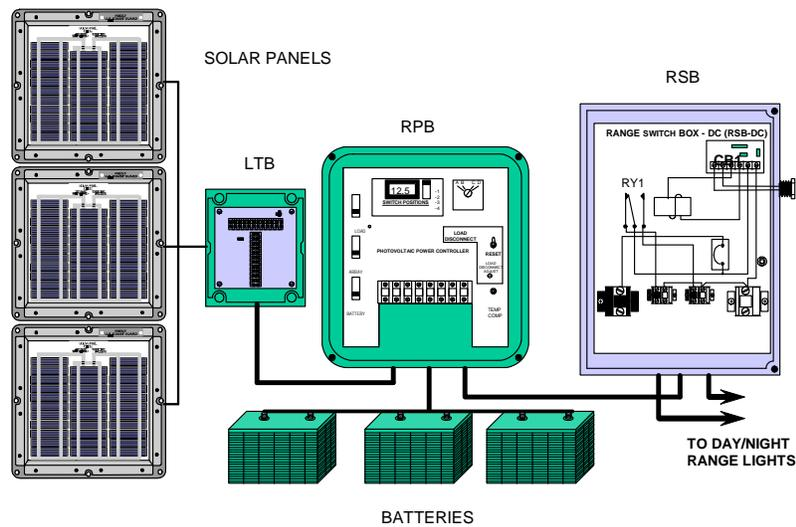

Figure 1-2
2. Day/Night Ranges. Day/night ranges generally use more power than a typical minor aid. Multiple solar panels are terminated into a Local Terminal Box (LTB). Overcharge protection, disconnects and low voltage cutoff are provided by the Range Power Box (RPB). Batteries are multiple 2-volt cells wired in series (Exide Classic, Absolyte II, Dryfit) or, for small systems, up to 4 minor aid batteries wired in parallel. The Range Switch Box (RSB) controls which light (day or night) operates. With the exception of the day/night lanterns, the power and control system is shown in Figure 1-2.
The RPB may also be used at a solar powered lighthouse with relatively small system loads (small wattage lamps or high intensity LED lanterns). With exception to the RSB-DC, the layout depicted in Figure 1-2 is the same.